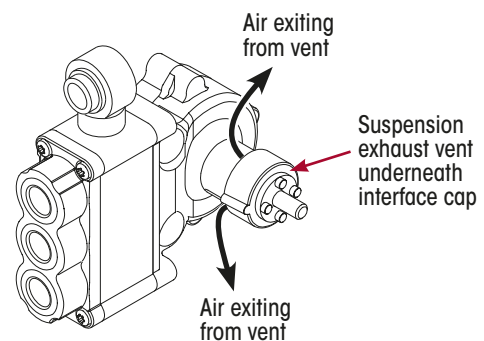

Figure 6: Suspension Exhaust Vent Under Interface Cap
13. Rotate control arm downwards to around 20 degrees below horizontal. The air spring should now begin deflating through the HCV exhaust port, which is underneath the interface cap. Refer Figure 6. This is
IMPORTANT: Height control valves will often continue to exhaust air from the exhaust, located under the interface cap, for several minutes after a vehicle has stopped. This is a normal operating function of the HCV as the vehicle stabilises, hence, does not indicate an HCV is leaking or faulty. Refer Figure 6.